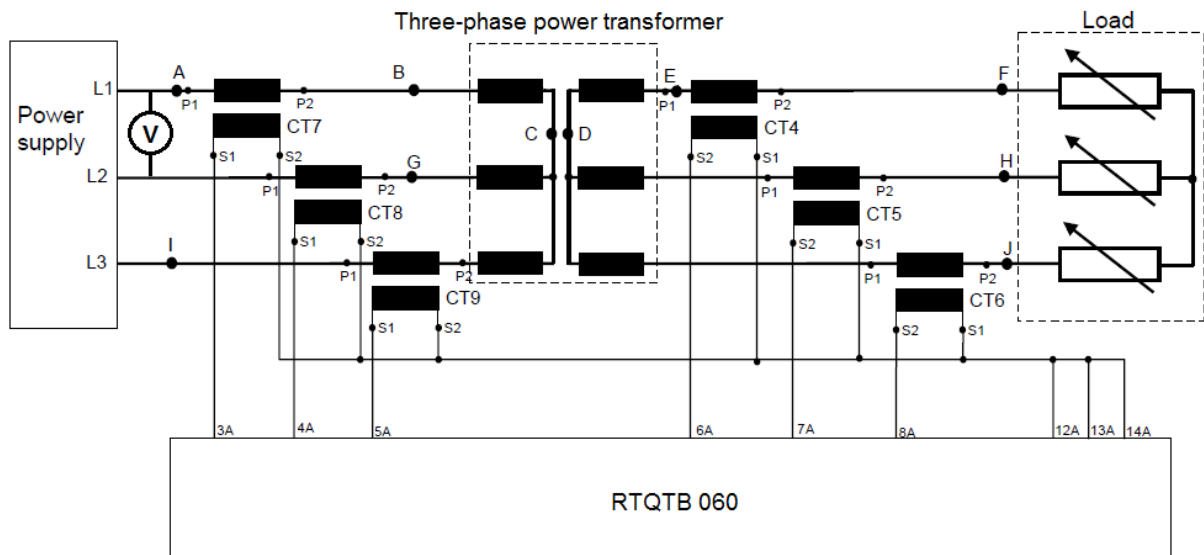

Figure 5: Differential relay protection on three-phase power transformer with YY-connection
2. Connect the circuit according to Figure 5. Insert a voltmeter between L1 and L2 of the power supply. Use Load as 3-phase load resistor *R* (MV 1100-235) and set it to maximum resistance.